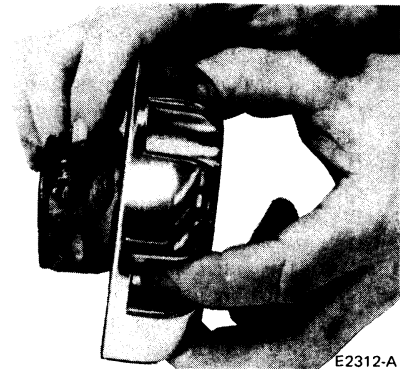

FIG. 19 Grease Application
6. Turn actuator knob to lock position. Apply a small amount of MOLY XL hi-speed grease to both grooves of the cam as shown (Fig. 19).